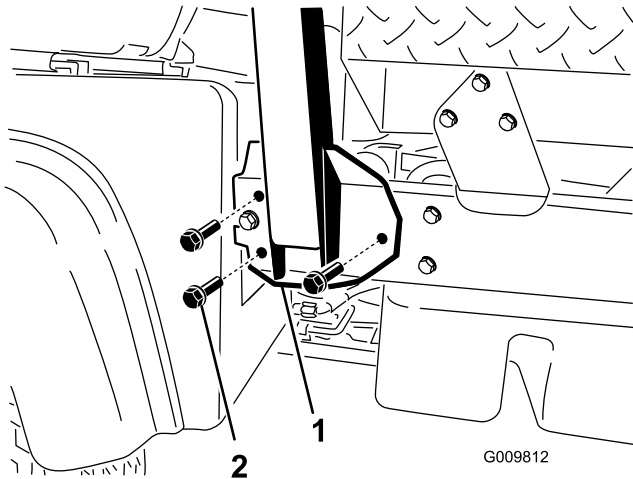

Figure 4
1. Align each side of the ROPS with the mounting holes on each side of the vehicle frame as shown in Figure 4.